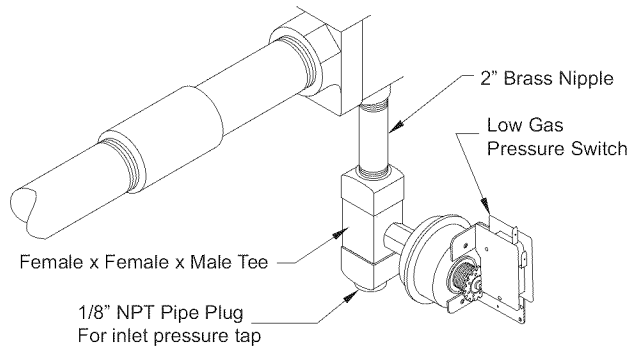

Fig. 41 - 80% Low Gas Pressure Switch
2. Remove low-gas pressure switch, brass street 90° elbow and 2-in. brass nipple from the gas valve inlet pressure tap. (See Fig. 41.)